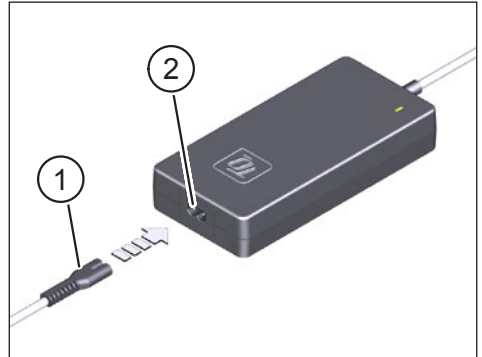

Fig. 1: Connect the Charger to the power supply
- ▶ Insert the small device plug (item. 1 in Fig. 1) of the country-specific power cord into the socket (item 2 in Fig. 1) on the Charger.